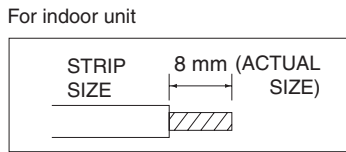

Fig. 3-53
(1) Cut the wire end with a cutting pliers, then strip the insulation to expose the wire about 8 mm. See the label (Fig. 3-53) near the terminal plate.